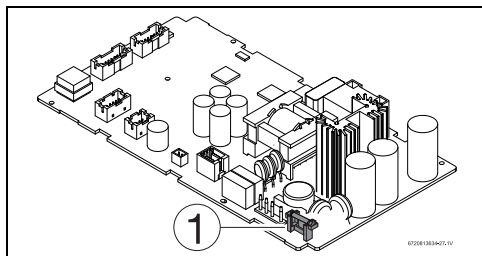

Fig. 38 Fuse position
- ▶ Check the fuse in the printed circuit board, for electrical continuity, see fig. 38, [1].